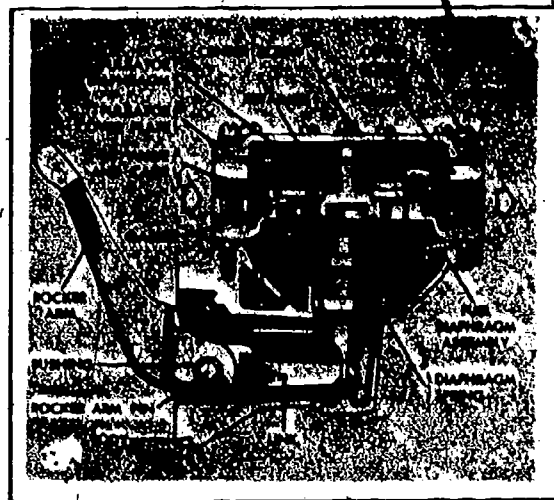

Fig 2-11. Nonpositive diaphragm fuel pump, sectional view.
(3) Fuel pump (fig 2-11). If the fuel supply tank is too low for the fuel to flow by gravity with sufficient pressure to the carburetor, a fuel pump is used to draw the fuel from the tank and force it into the carburetor. Fuel pumps are classified as positive and non-positive diaphragm. The positive-type pump continues to pump fuel even when not needed; the nonpositive type pump will fill the carburetor-bowl and stop when a specific pressure is reached. Most gasoline engines are equipped with the nonpositive diaphragm-type pump. A lever on the pump is in contact with a cam surface (cam lobe) on the camshaft. As the lever rides up and down on the cam, it pushes a diaphragm in the pump up and down. The diaphragm functions similar to the piston in the engine cylinder. When the diaphragm is down, the fuel forces a 1-way valve off its seat and fills the chamber. When the lever is released and the diaphragm is forced up by a spring, the inlet valve is forced closed and another 1-way valve allows the fuel to be forced out into the carburetor fuel line. When the pressure builds up in the line to the carburetor, the valve will remain seated and the fuel in the fuel pump chamber will hold the diaphragm to keep it from pumping more fuel. The cam and lever cause the diaphragm to draw fuel in and spring tension forces the fuel out under pressure.